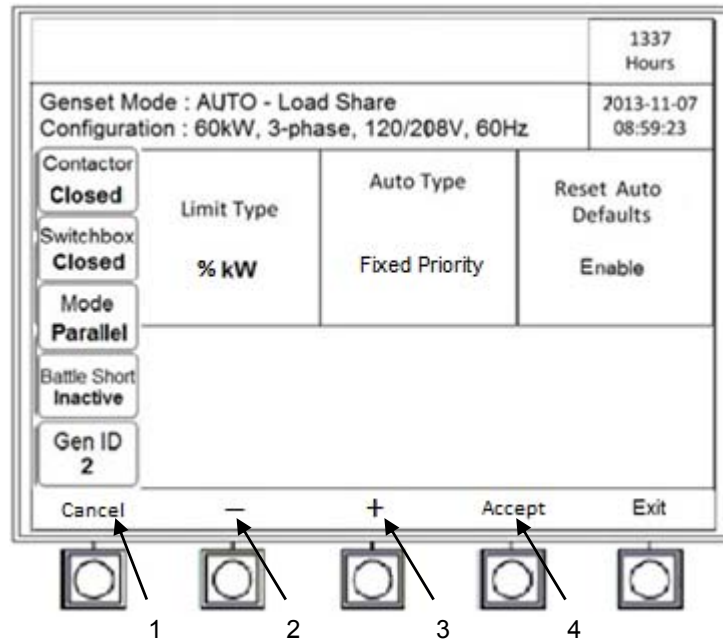

Figure 4-10. Advanced Setup Select Screen
- p. If [Reset Auto Defaults] was selected and restoring defaults is desired, press [Accept] (figure 4-10, item 4). If restoring defaults is not desired, press [Cancel] (figure 4-10, item 1).
- q. Press [+] (Figure 4-10, Item 3) or [-] (figure 4-10, item 2) to adjust parameter.
- r. Once parameter is adjusted, press [Accept] (figure 4-10, item 4).